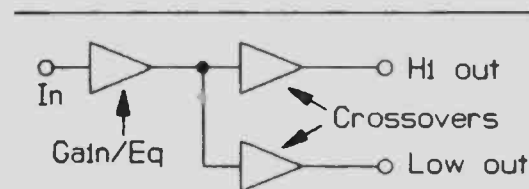
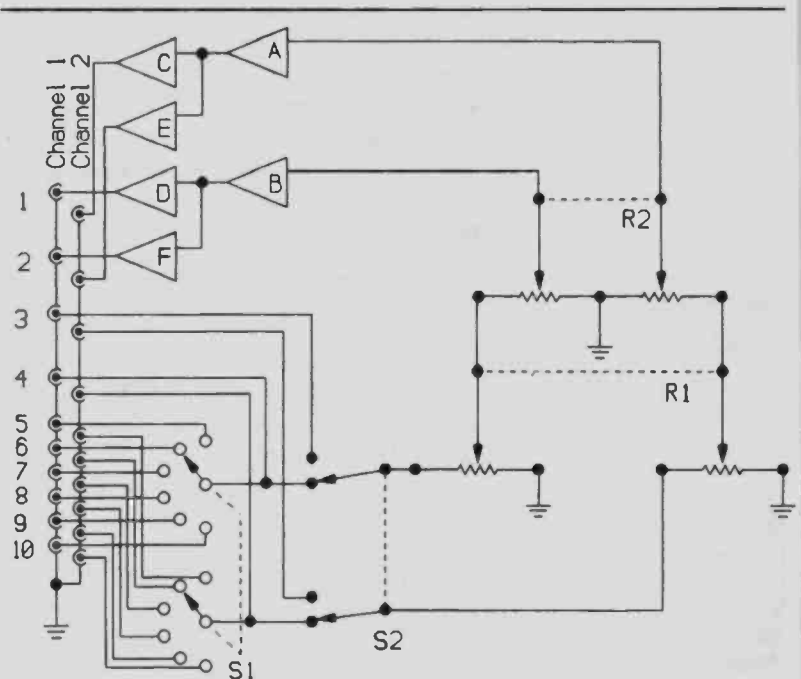

FIGURE 8-4: Gain/equalizer/crossover unit schematic.
FIGURE 8-5: Schematic for a control center.
*Figure 8-4* is a schematic of a basic gain/equalization/crossover unit. *Figure 8-5* shows it turned into a full-blown control center. I designed these to work with the hybrid ESL/TL systems shown in this book. You may use them as shown, or customize them to your special needs. Don't be intimidated by the complexities I've just outlined. By the time you finish this chapter, you will be able to understand and build electronics.
## PARTS LIST FOR FIGURE 8-5